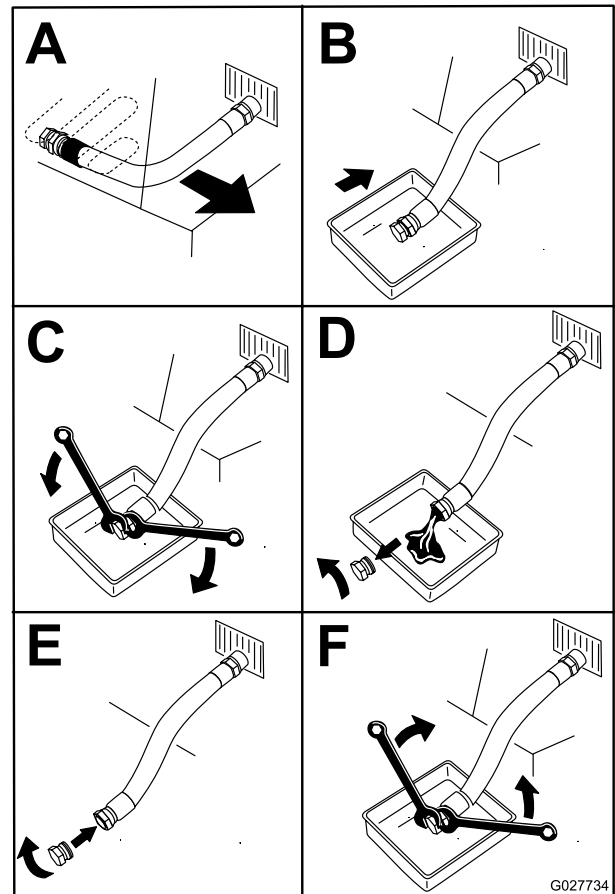

Figure 52
- Shut off the engine, remove the key, and wait for all moving parts to stop before leaving the operating position (Figure 52).